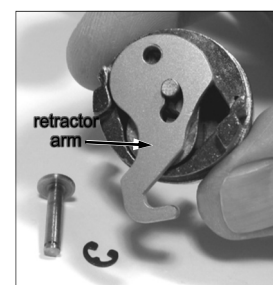

Fig. 2b: The retractor arm placed for LH operation.
- 2b. **Flip over the retractor arm as shown in Fig. 2b.**